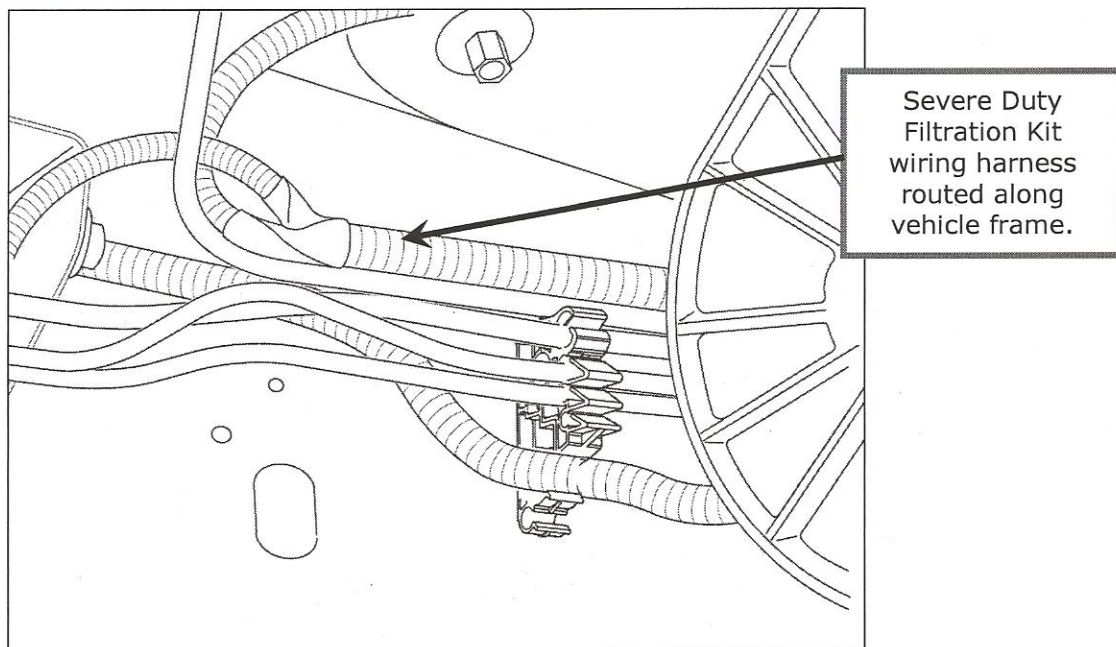

Figure 7
2. From under vehicle, route wiring harness along the path of the fuel bundle lines (See Figure 7).